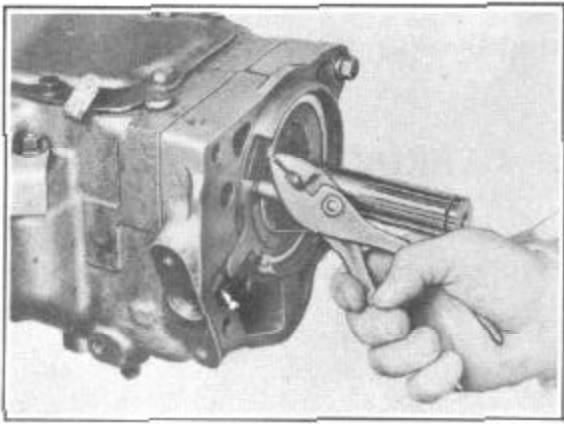

FIGURE 23
2. Install the large snap ring, Figure 23.